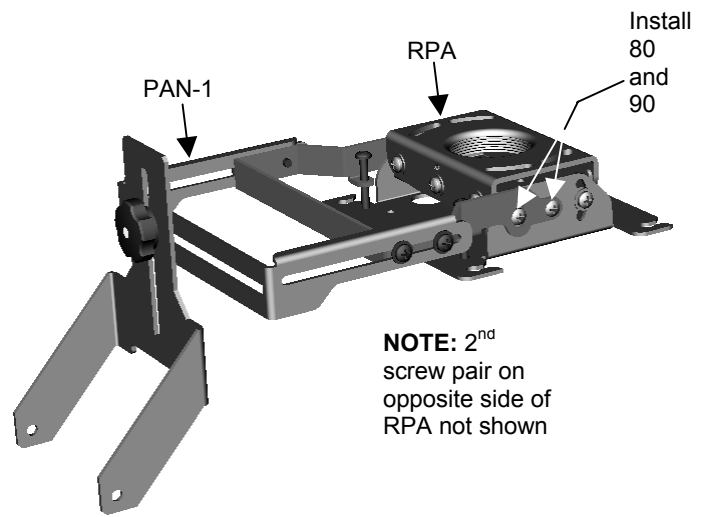
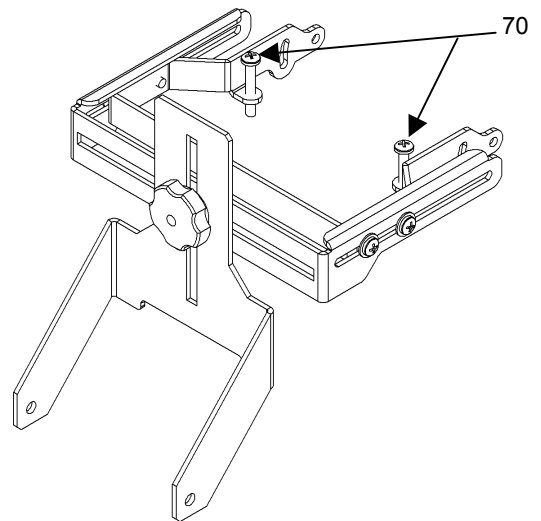

Figure 6. Attach PAN-1 to RPA
Figure 7. Install Angle Adjustment Screws
4. Slide the PAN-1 over the RPA projector mount, as shown in Figure 6.
6. Locate the parts bag supplied with the PAN-1. Find four 5/8" screws (80) and four #10 washers (90).
**NOTE:** Leave the four screws (80) loose. These screws will be adjusted and tightened later.
7. Attach the PAN-1 to the RPA by installing four screws (80) and washers (90) into the threaded holes on the RPA (see Figure 6).
8. Find two 1-1/4" Phillips screws (70) in the parts bag.
**NOTE:** Stop threading each screw (70) when the end protrudes through the bracket hole approximately 1/4" as shown in Figure 7.
9. Install two screws (70) in the threaded tabs on the PAN-1 (see Figure 7).